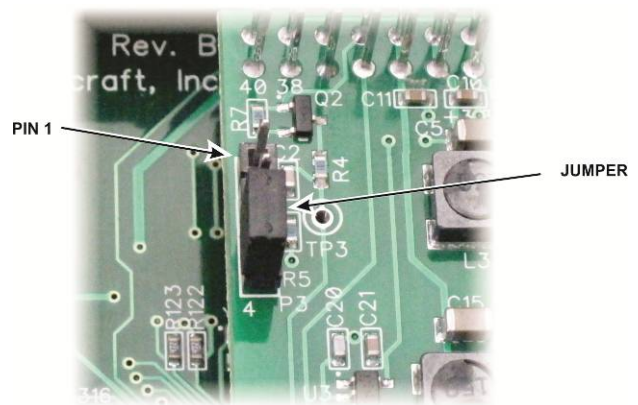

Figure 19. Power Control Jumper.
To configure the power control, loosen the four thumb screws and remove the PX3 rear panel. The jumper is located near the edge of the Power Supply (PS) board as shown in Figure 19.
**Pins 3 & 4:** Normal operation of the **PWR** switch. The jumper is shown in this position in Figure 19.